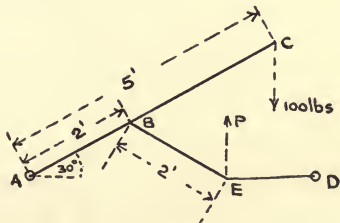

Fig. 2.
2.  $ABC$  is a continuous rod (see Fig. 2) hinged at  $A$ .  $ED$  is another lever hinged to a fixed point  $D$ . The points  $B$  and  $E$  are connected by a link. A vertical force of 100 lbs. is applied at  $C$ , and the lever  $ED$  is maintained in a horizontal position by a vertical force  $P$ .